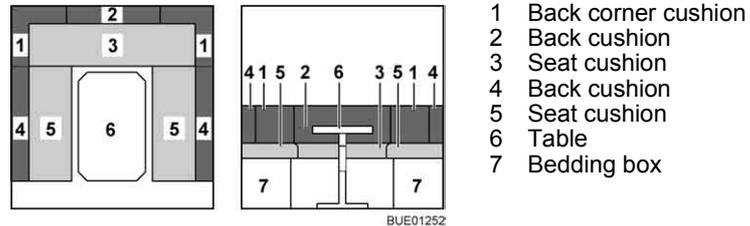

Fig. 92 Prior to conversion
- Remove the back corner cushions (Fig. 92,1) and the back cushion (Fig. 92,2) and store them under the table.